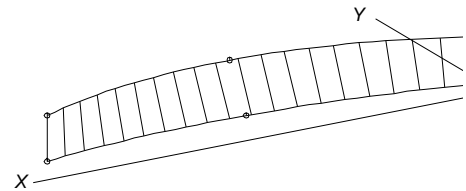

Fig. 10
- 8 Change dy to 7.** Now 'sheer and 'chine' are no longer congruent (Fig. 10).